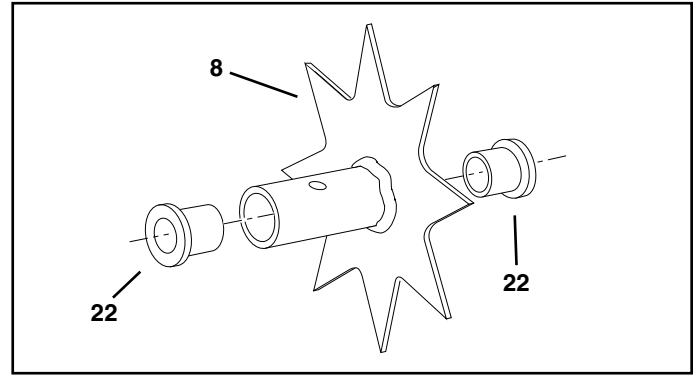

FIGURE 12
- Push a flanged bearing (22) into each side of the drive disk (8). See figure 12.